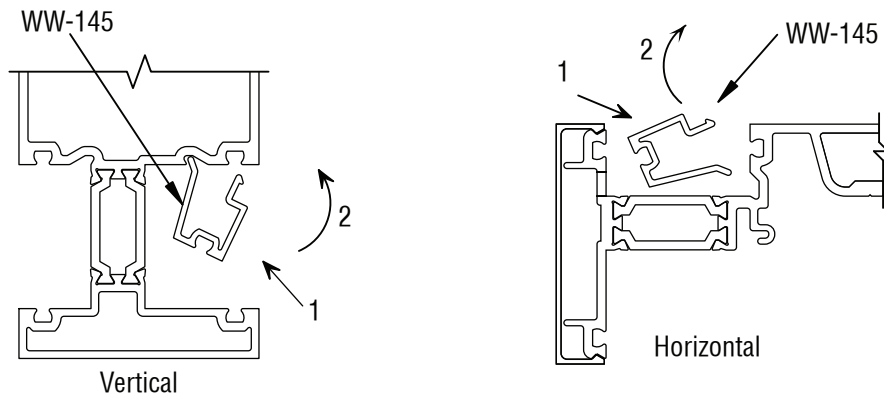

Figure 27
- A.1 Install vertical adaptors first, leaving an equal overlap into each pocket. **SEE FIGURE 27.** Refer to **VERTICAL SPLICING, page 29** if vertical mullion is spliced within a spandrel lite. Transition adaptors must be installed after mullion splice is sealed.